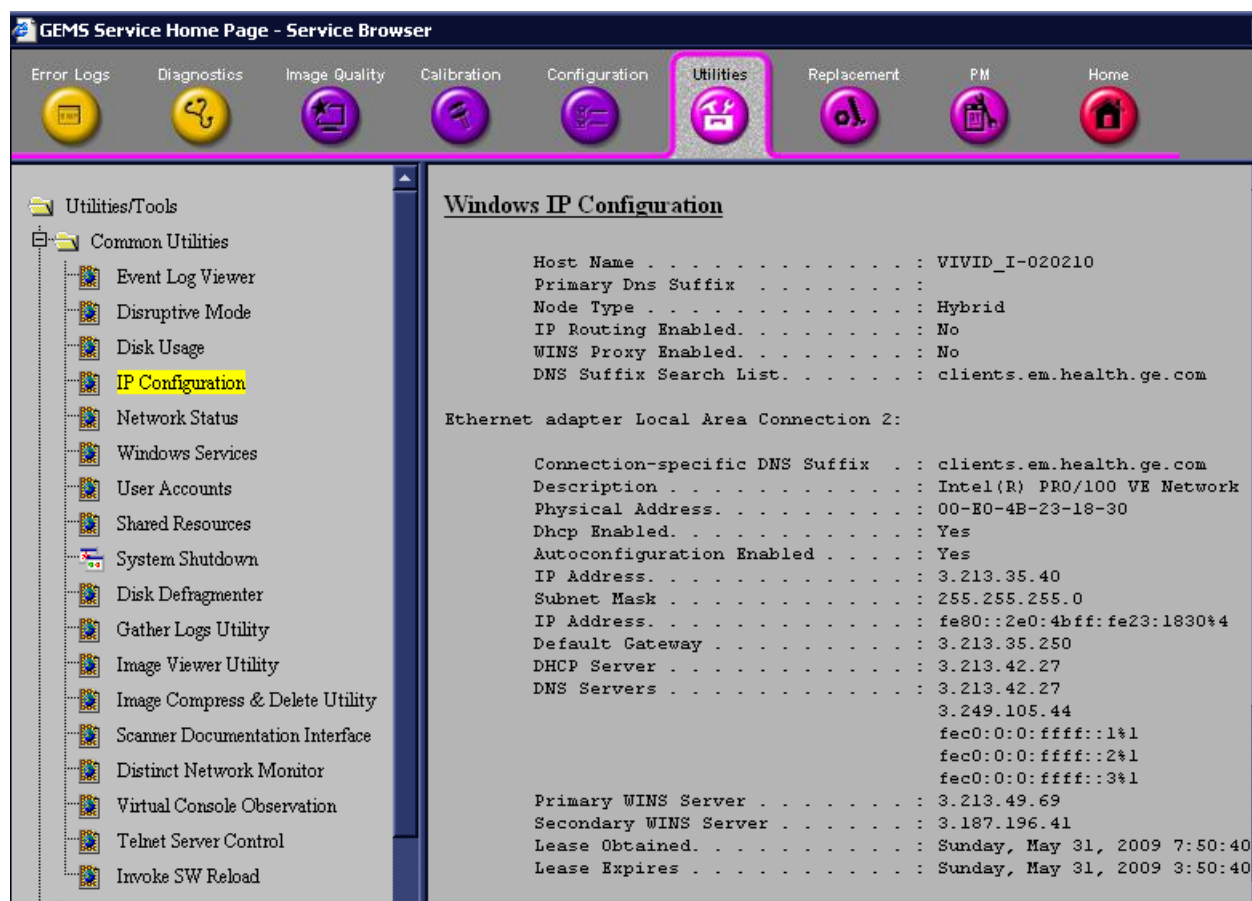

Figure 7-125 IP Configuration
- **IP Configuration** - displays IP information required by the FE or OLC - see Figure 7-125.